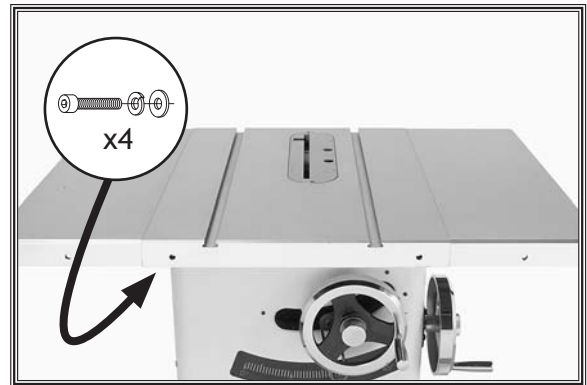

Figure 13. Extension wings installed.
8. While a helper holds the wings in place, attach each extension wing to the main table with the four M8-1.25 x 30 cap screws, 8mm lock washers, and 8mm flat washers removed in Step 6 (see Figure 13).